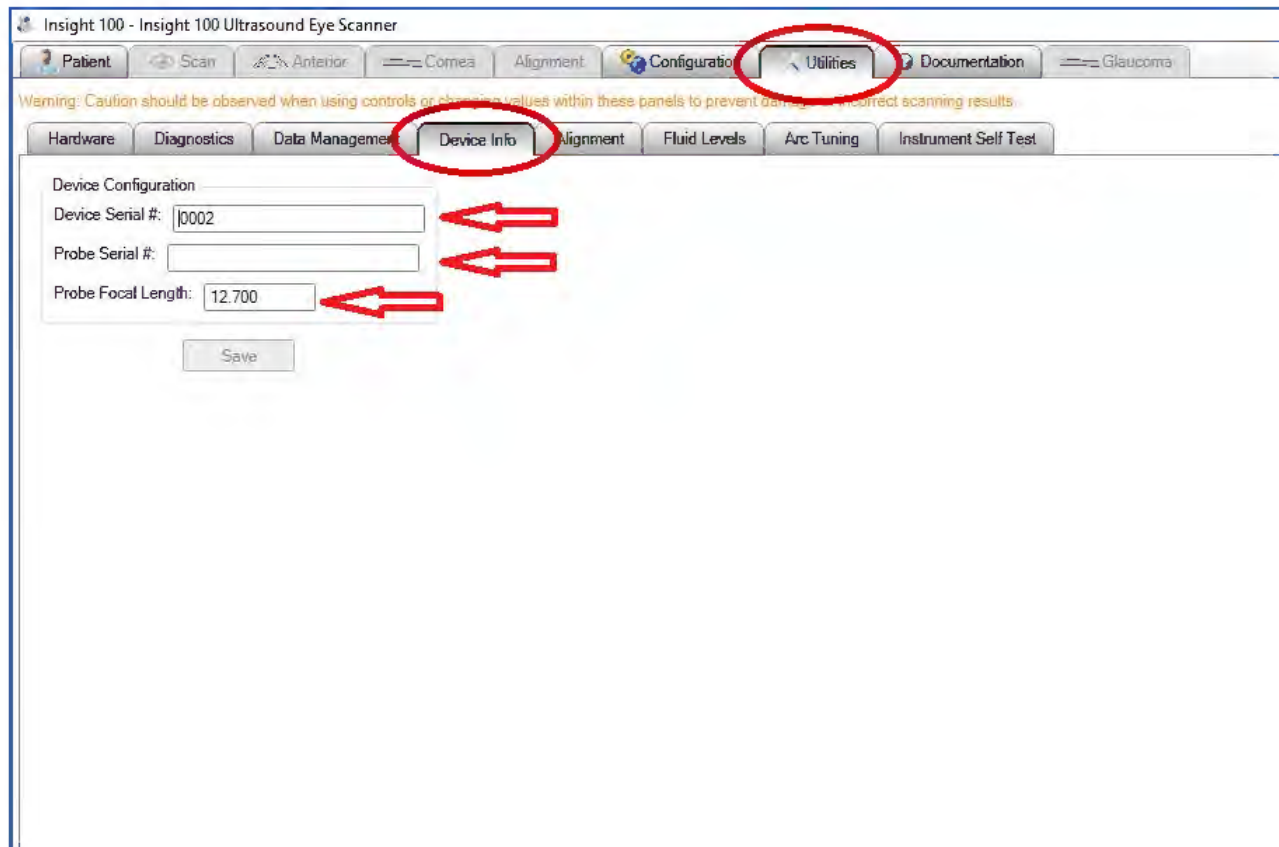

Figure 39: Device info tab for correct probe focal length data.
7. Once full of water and motors homed (check **Advanced Troubleshoot 1** for ensuring motors homed), go to **Utilities** tab, then **Device Info** sub-tab. Make sure the correct probe focal length is entered. Save it. See **Figure 39** as an example